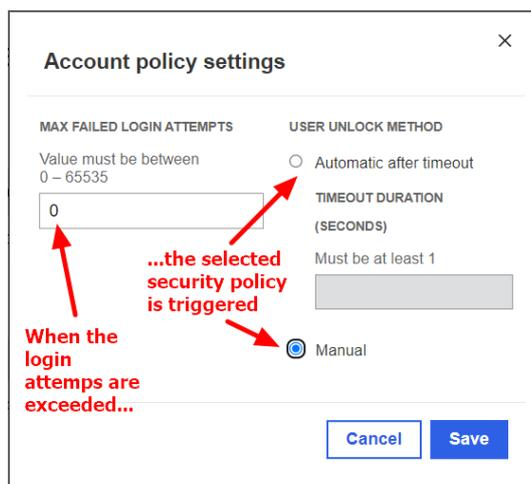

Figure 56: Account policy settings menu
- **Automatic after timeout:** when this option is selected, the system will block the login and start a timer. The login attempt will be released again only after the time configured in the “Timeout Duration” window is reached. The “Timeout Duration” is configured in seconds in the text box shown in the Figure 56.